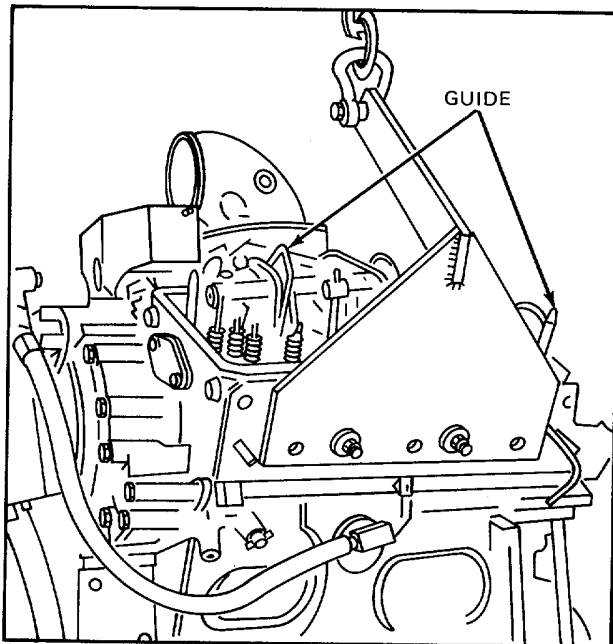

Figure 2. Lifting or Installing Cylinder Head with Tool
11. Check the torque on the cylinder head bolts before removing the head. Then remove the bolts and lift the cylinder head from the cylinder block using tool J 22062-01 (Fig. 2). Checking the torque before removing the head bolts and examining the condition of the compression gaskets and seals after the head is removed may reveal the causes of any cylinder head problems.